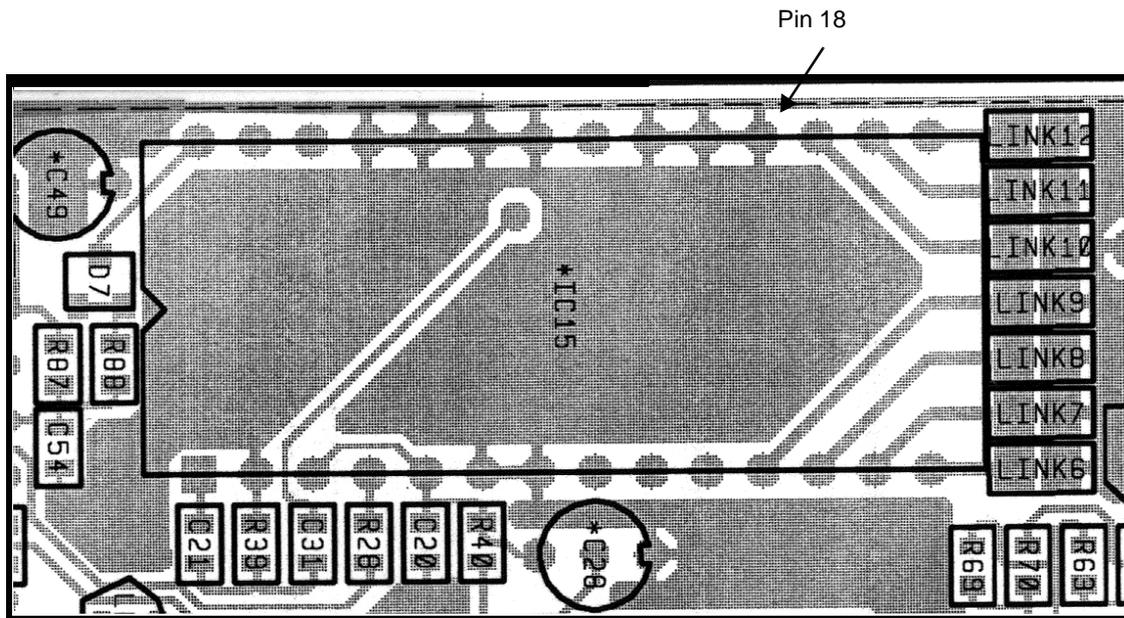

Figure 6 T800-30-0002 Location of Pin 18 - Top Side
- Cut pin 18 (shown in Figure 6) approximately half way down the pin and bend it away so that its logic level floats high.